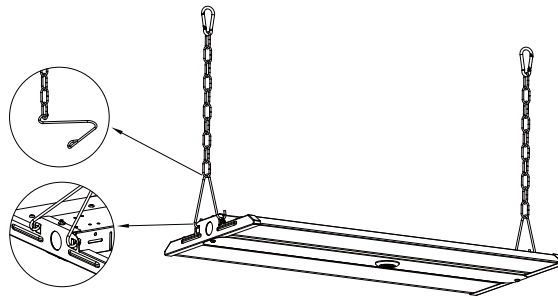

Figure 1
Step1. Hook up the chain; (Figure 1)
Step2. Connect the chain with fixture; (Figure 1)
Step3. Fix the chain on the rail, adjust the chain length as per need; (Figure 1)